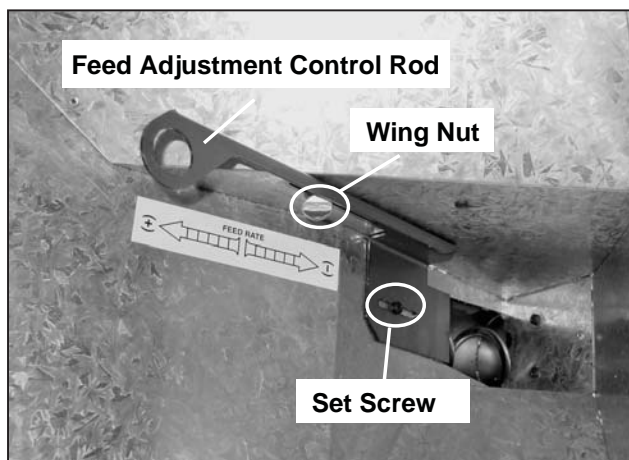

Figure 25.1
- c. The firepot floor plate must be fully closed when finished. **Figure 25.1 on page 25.**